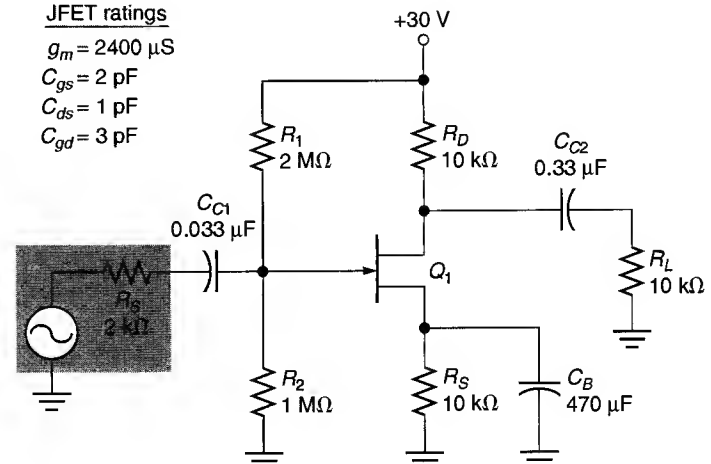

FIGURE 14.35
31. Calculate the value of f_{IG} for the amplifier in Figure 14.35.
33. Calculate the value of f_{ID} for the amplifier in Figure 14.35.
35. Calculate the values of f_{2G} and f_{2D} for the amplifier in Figure 14.35.